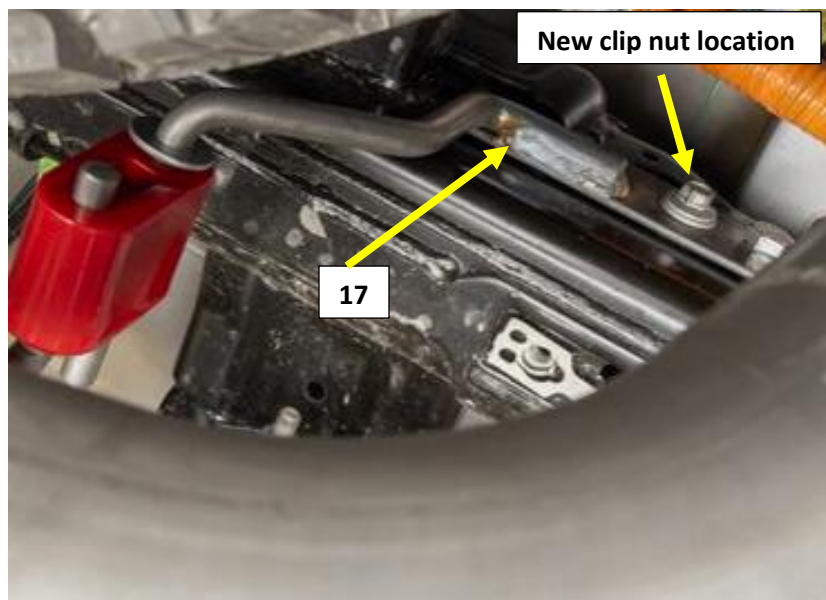

Figure.12
Note: Standard F150 models may already be in the correct location, PowerBoost clip nuts will move from the bottom of the frame rail to directly above and to the inside of the frame rail as shown. See **Fig.12** as reference.
3. Install the 535HA (17) frame hanger on to the inside Left frame rail using the OEM Mounting bolt. **Fig.12**